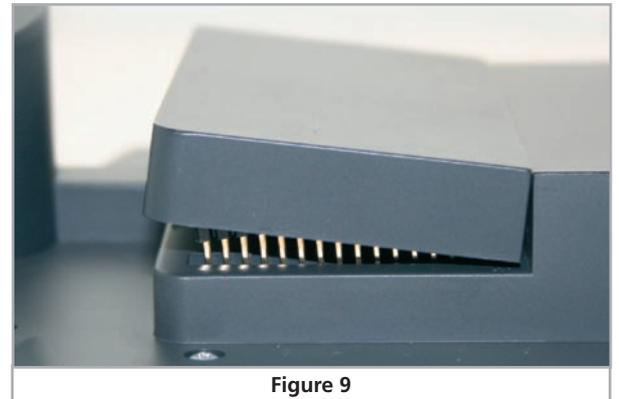

Figure 9
- d) Place the cover over the module and **push the serrated surface downwards** in order to fix it in place (Fig. 9).